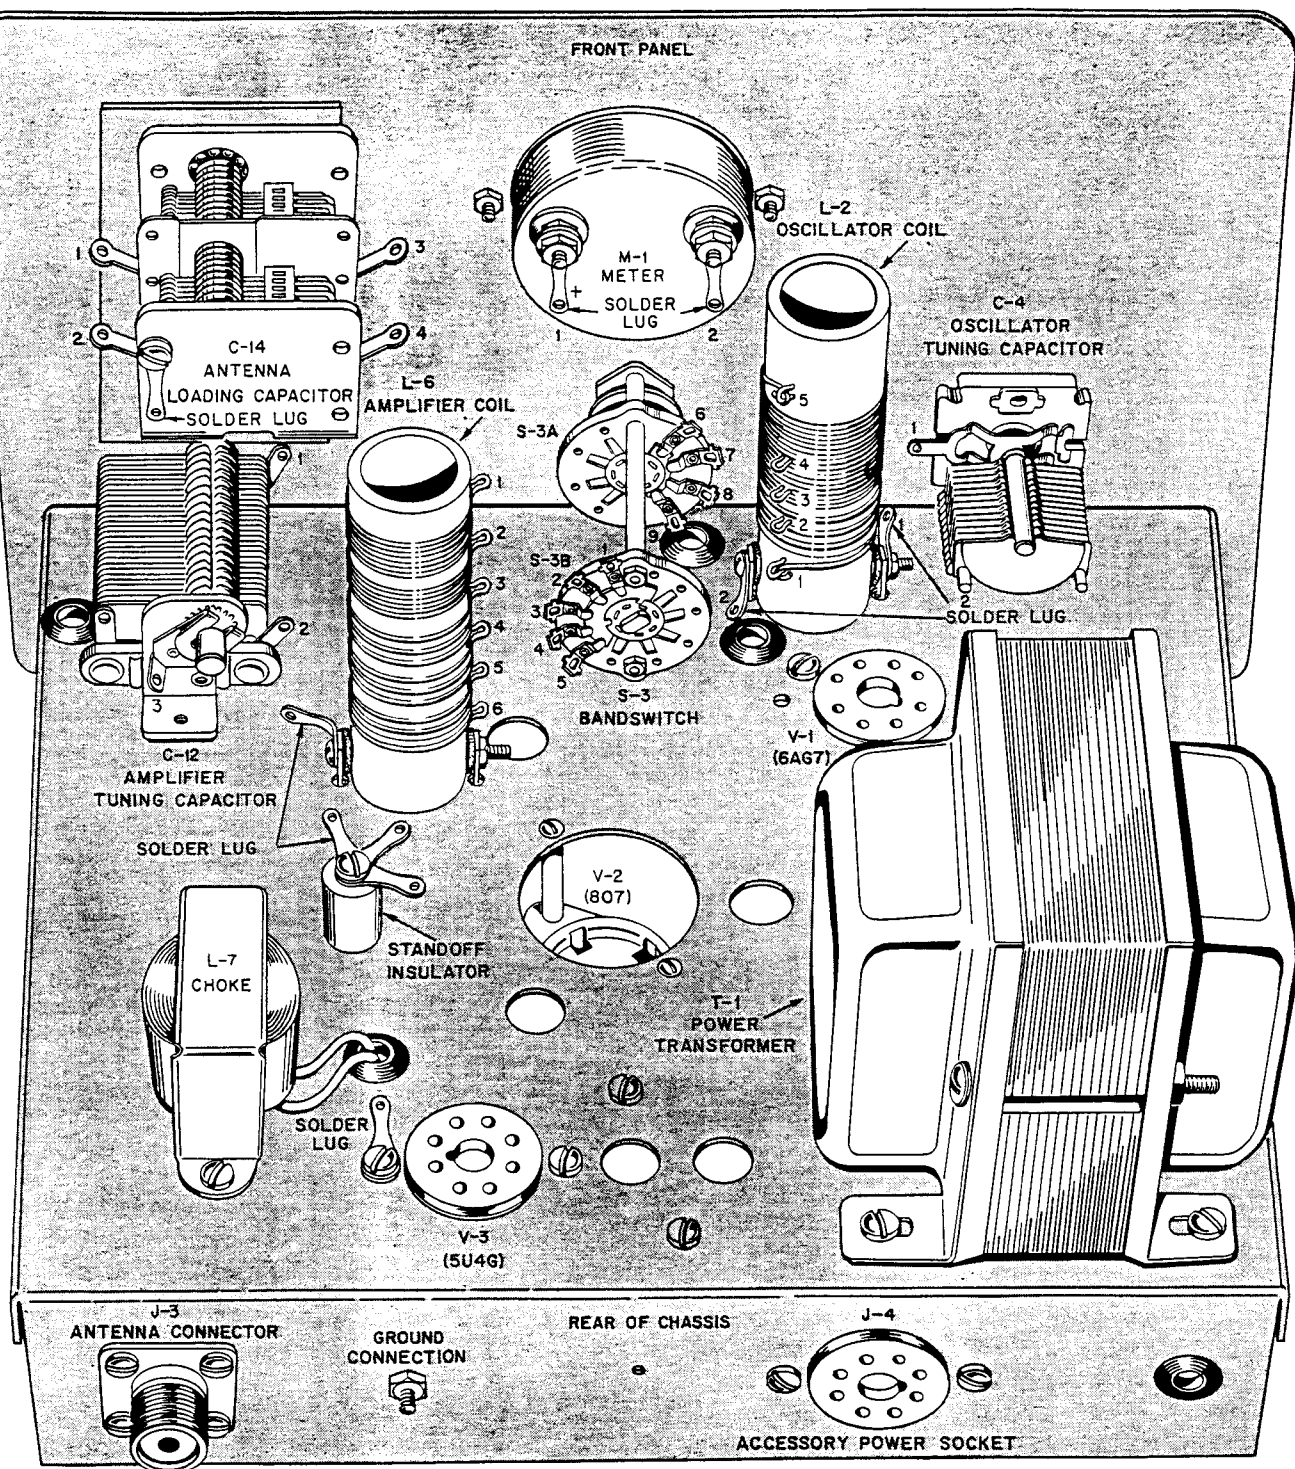

FIGURE 6. MOUNTING THE PARTS ON TOP OF THE CHASSIS
SEE FIGURE 6.
- ☐ Install S-3, the 2-section ceramic bandswitch, in the hole just below the very large round hole in the center of the front panel. Position the terminals as shown in Figure 6. Use a large lockwasher on the back of the panel, a large flat washer on the front of the panel and a large hex nut to fasten S-3.
- ☐ Mount L-6 by putting the two spade screws through the holes in the chassis as shown in Figure 6. Put a lockwasher on both spade screws under the chassis. Put a solder lug on the spade screw nearest to V-2. Fasten the coil with two 6-32 nuts.
- ☐ Mount L-2 in the position shown in Figure 6. Put a small lockwasher on both spade screws under the chassis and a solder lug on the spade screw near the two grommets. Fasten the spade screws with two 6-32 hex nuts.